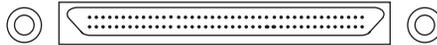
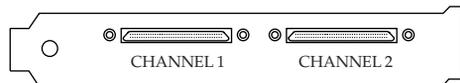

Figure 18 68-pin High Density Connector
Figure 19 SCSI LVD Board Connectors
- If you are using a dual-port Ultra320 SCSI board (see Figure 19), connect SCSI LVD cable to the channel 1 connector.
3. Connect the one end of one Ultra320 SCSI cable to your first Avid editing system. See Figure 17, Figure 18, and Figure 19.
4. Connect the one end of the second Ultra320 SCSI cable to your second Avid editing system. See Figure 17, Figure 18, and Figure 19